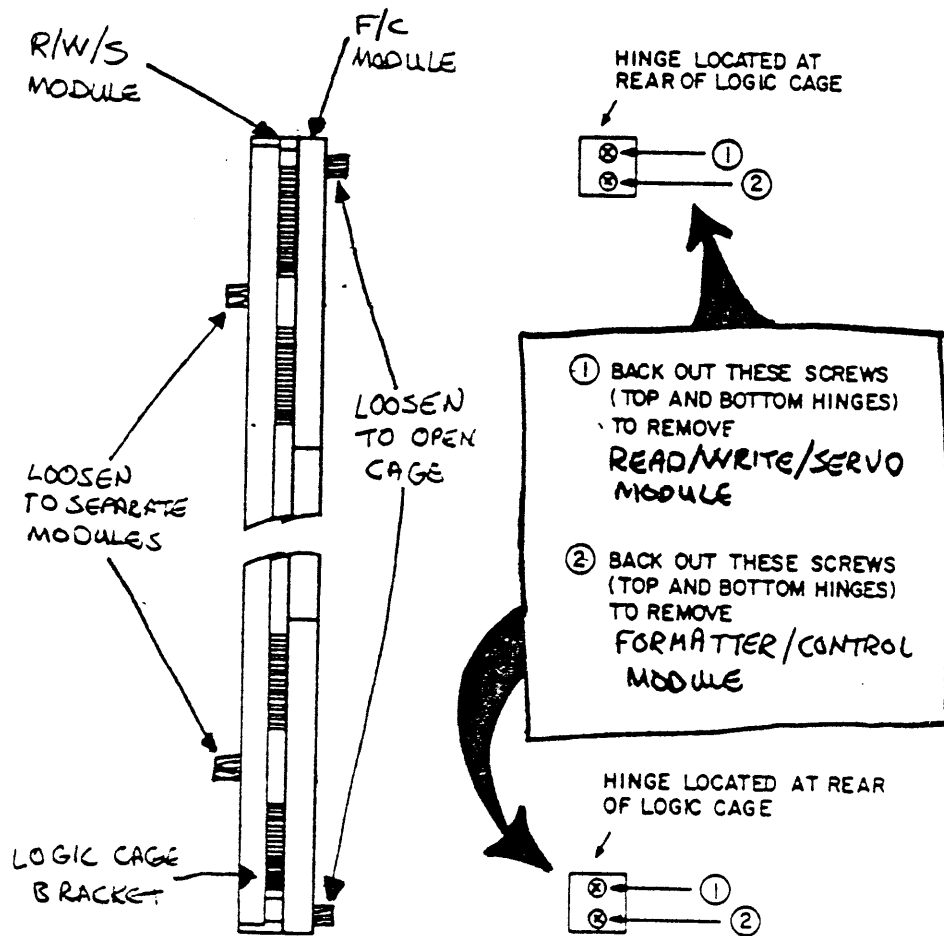

Figure 14 LOGIC CAGE ASSEMBLY
There are two screws in each hinge of the logic cage (Figure 14). The screws are never removed. They are loosened only enough to clear the module they hold. The top screw in each hinge holds the R/W/S module.
- ___ 3. Loosen but do not remove the bottom screw in each hinge of the logic cage (Figure 14) to release the F/C module.
- ___ 2. Insert and tighten the hinge screws (Figure 14) to lock the R/W/S Module in its position.
- ___ 5. Insert and tighten the hinge screws (Figure 14) to lock the F/C module in its position.